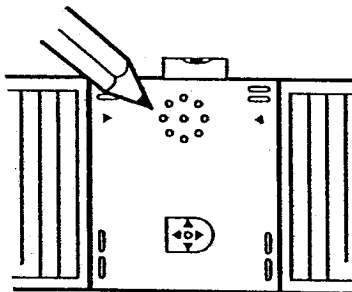

Fig. 20
2. Hold the wall template against the wall at the required boiler location. Ensure that the top of the template is level (Fig. 20).
4. Mark the position of the flue hole centre and the inward pointing corners of the two triangular cutouts in the template. Mark the position of the four fixing holes. Where possible use the uppermost and lowest fixing hole positions, otherwise space the fixing holes as far apart as possible (Fig. 20).